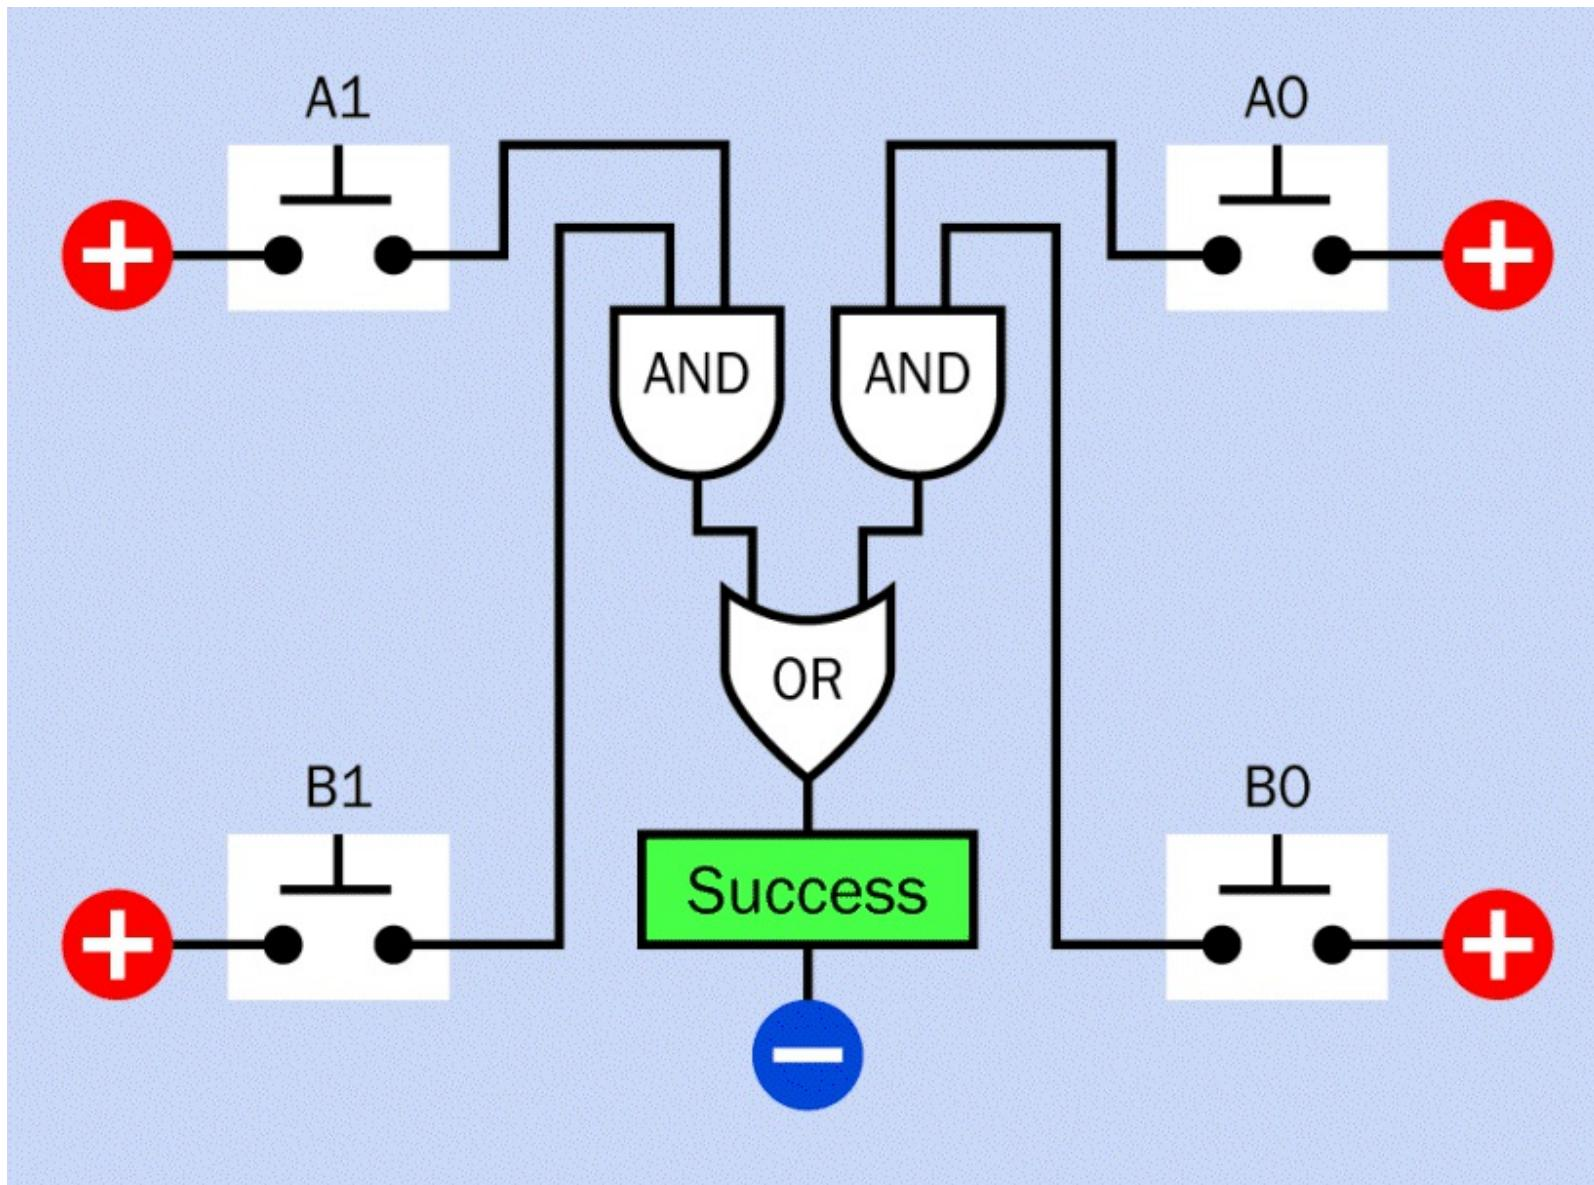
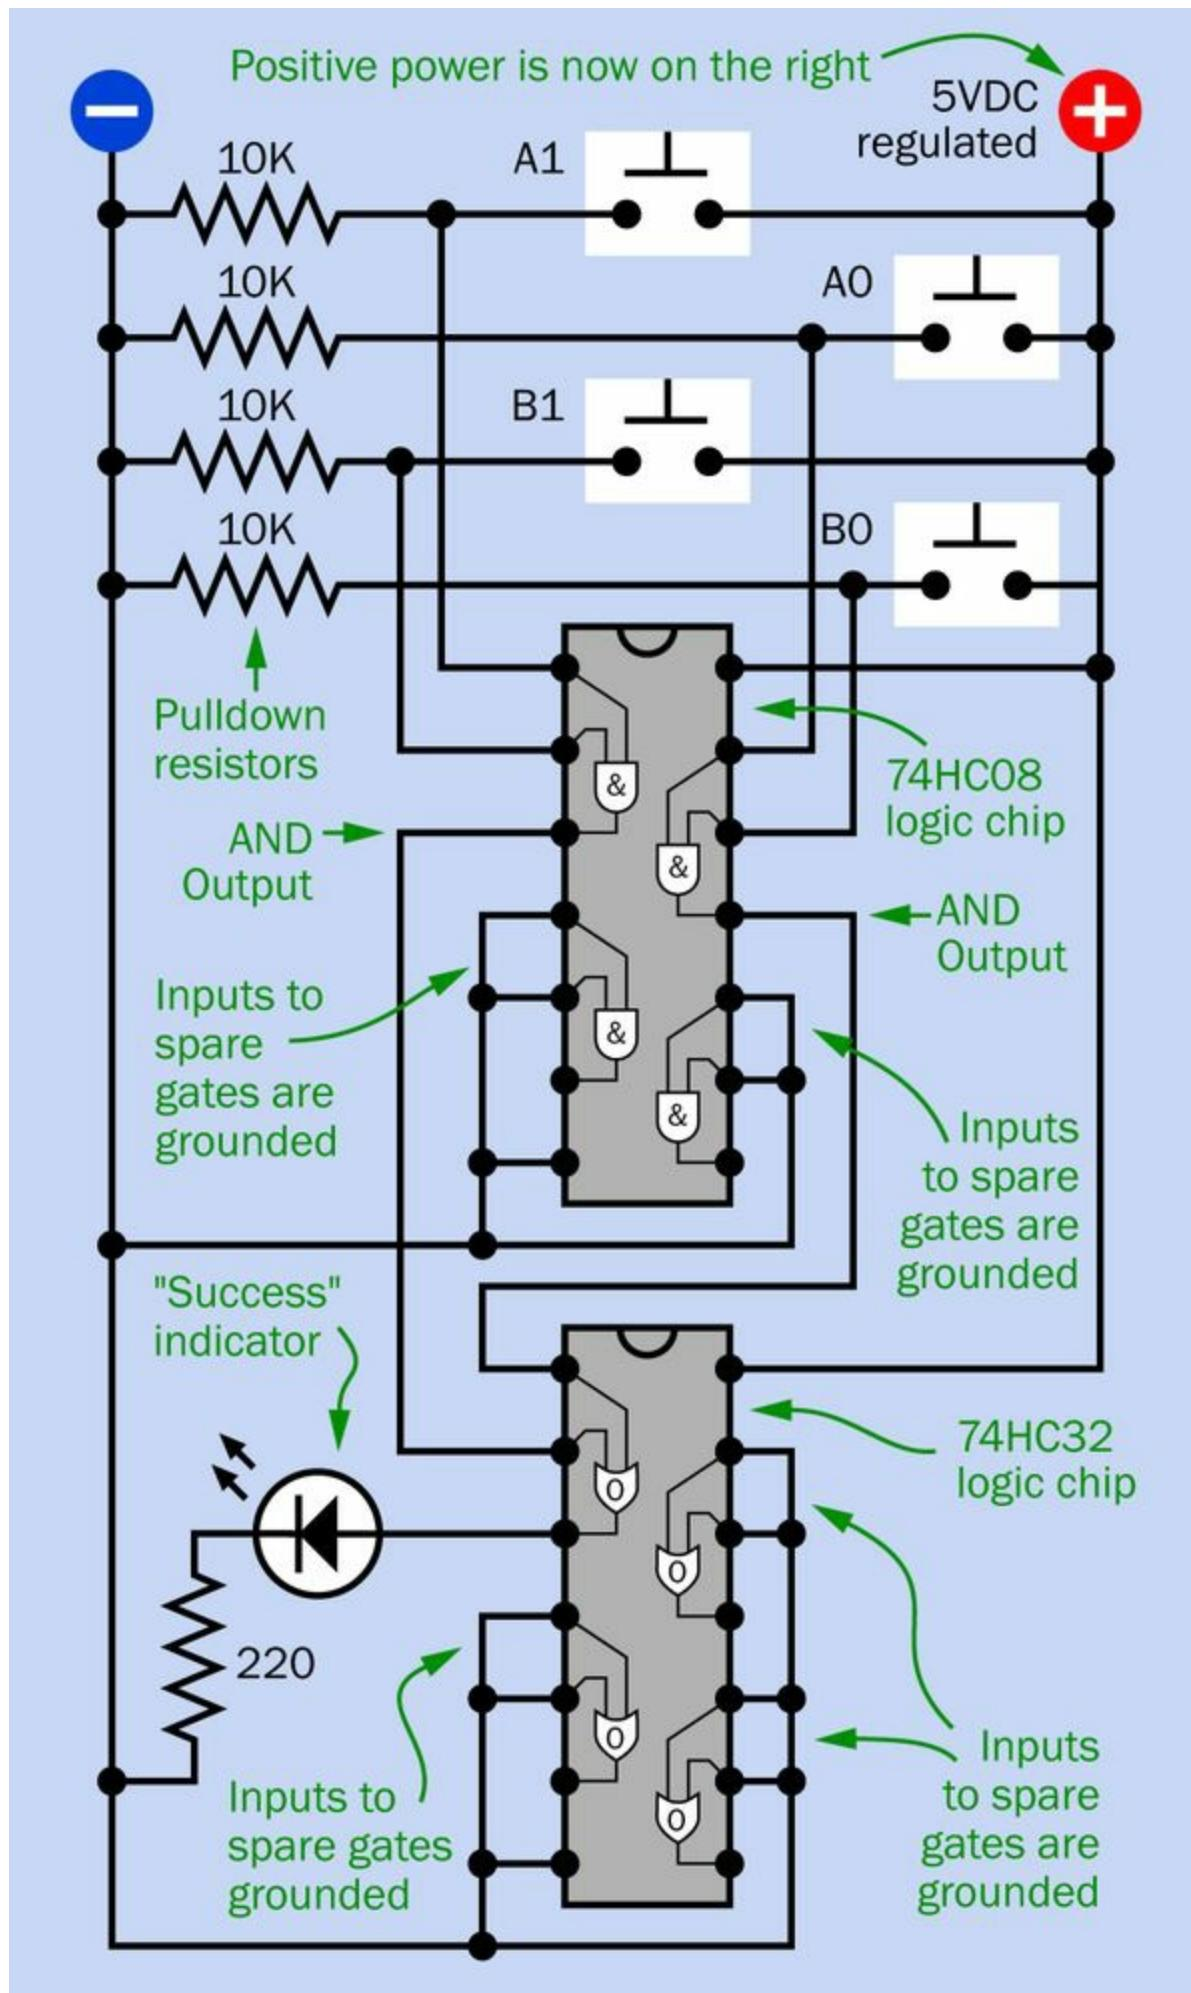

Figure 15-2. These logic gates will activate a “success” indicator if A0 and B0 are both pressed, or if A1 and B1 are both pressed.
Figure 15-8. This schematic shows the simplest breadboardable version of the ESP test.
Figure 15-2 shows how AND and OR logic gates can be used with the pushbuttons to confirm that a trial has been successful.
- A logic diagram is not the same as a component schematic. In a logic diagram, such as the one shown in Figure 15-2, power supplies to logic gates are not usually shown, and pullup or pulldown resistors are also omitted. In a component schematic, chips with pin connections are shown instead of logic gates, and all necessary power connections are included.
The concept of Figure 15-2 is very simple. It can be summarized in this sentence:
The schematic that corresponds with the logic diagram in Figure 15-2 is shown in Figure 15-8. I have squeezed some miniature representations of the gates into the chips to show what's going on. “&” denotes an AND gate, while “O” is an OR gate. (These are not standardized abbreviations.)
Figure 16-1 translates these two sentences into a logic diagram. For the sake of clarity, I have shown this separately from the previous logic diagram in **Figure 15-2**. However, the two diagrams could be combined, as shown in **Figure 16-2**, because you can take the output from a single pushbutton and share it among two or more logic inputs. (In **Figure 16-2** I have showed the connections from **Figure 15-2** in gray, to distinguish them from the new connections.)
Would you like to add this functionality to the breadboarded circuit in Figure 15-8? You may have noticed that there were several gates in the chips in that schematic that were not being used. Because every gate operates independently of the others in a multigate chip, we could make use of unused gates to provide the initial features that I have described above. For instance, the “ready” test requires just two OR gates, and there are three OR gates inside the 74HC32 chip that are not being used.